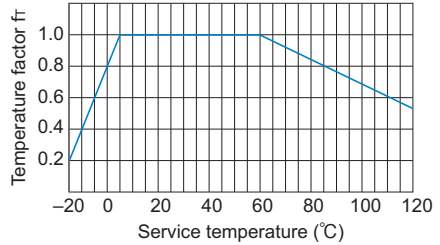

Fig.2 Temperature factor
If the temperature of the spline nut exceeds the normal temperature range, the seizure resistance of the nut and the strength of the material will decrease. Therefore, it is necessary to multiply the dynamic permissible torque (T) by the corresponding temperature factor indicated in Fig.2.
- f_r : Temperature factor (see Fig.2)